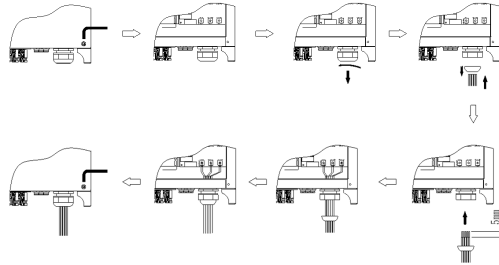

Figure 6: Wiring of AC side and inverter
- 2- Remove the surface cover of the lower case of the inverter, and remove the waterproof protection cover of the AC junction box; connect the five leads (L1, L2, L3, N-optional-, PE) well crimped to the AC terminal; screw tightly the AC waterproof cap and the surface cover of the inverter (see figure 6).